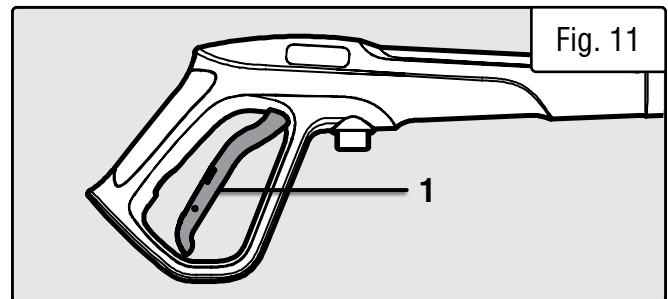

Fig. 11
3. Pull the power trigger (Fig. 11 - 1). Allow the water to run for approximately 2 minutes until there are no bubbles present in the water stream, indicating that air has been bled from the system.